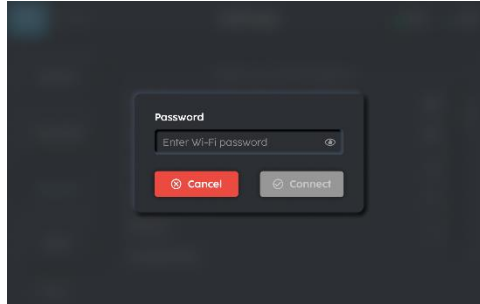

Fig 5
1. Enter the network password (Fig 5).